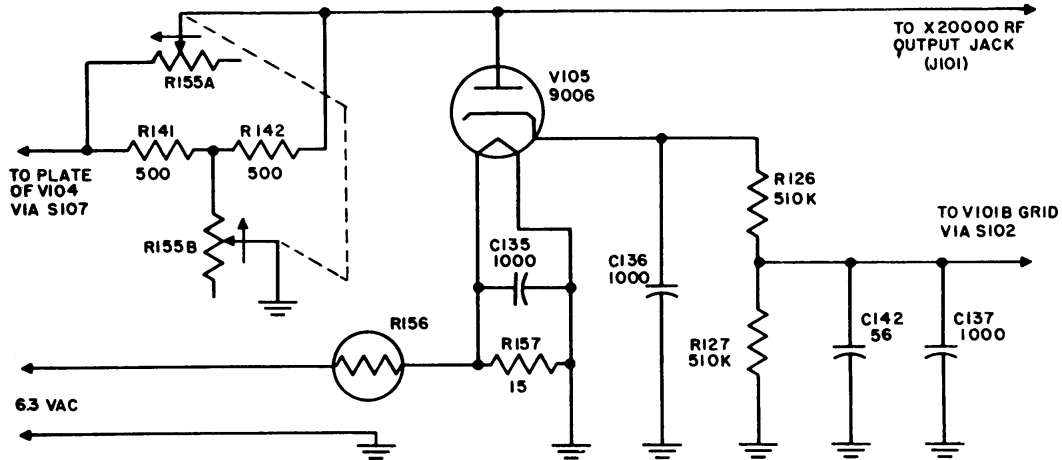

Figure 2-5. Simplified Schematic Diagram of the RF Diode
a. RF DIODE. (See figure 2-5).
(1) The RF diode (V-105) rectifies the carrier output signal of the buffer-amplifier (V-104) which is then applied to the voltmeter bridge (V-101) circuit. The strength of this RF signal is indicated on the meter (M-101).
(2) V-105 is a type 9006 tube. The RF voltage is taken from the plate circuit of the buffer-amplifier (V-104) and applied across V-105 through a T pad described in paragraph 6i of this section.